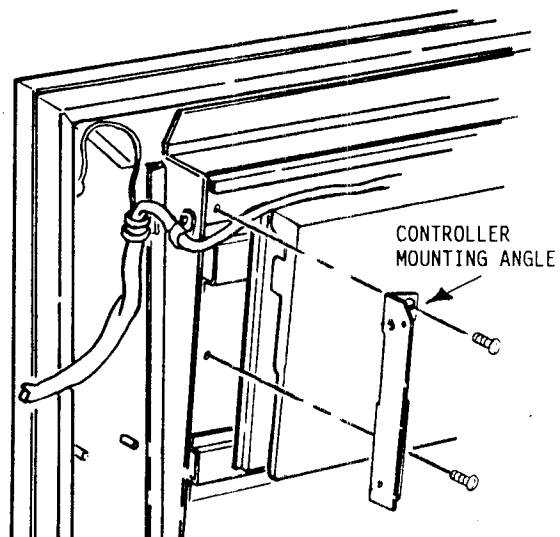

FIGURE 3b
B. INSTALLING THE CONTROLLER MOUNTING ANGLE (Figure 3B)